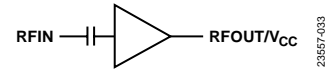
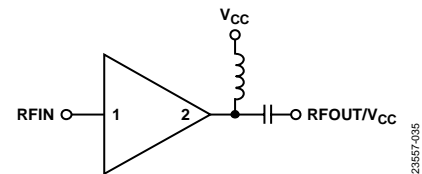
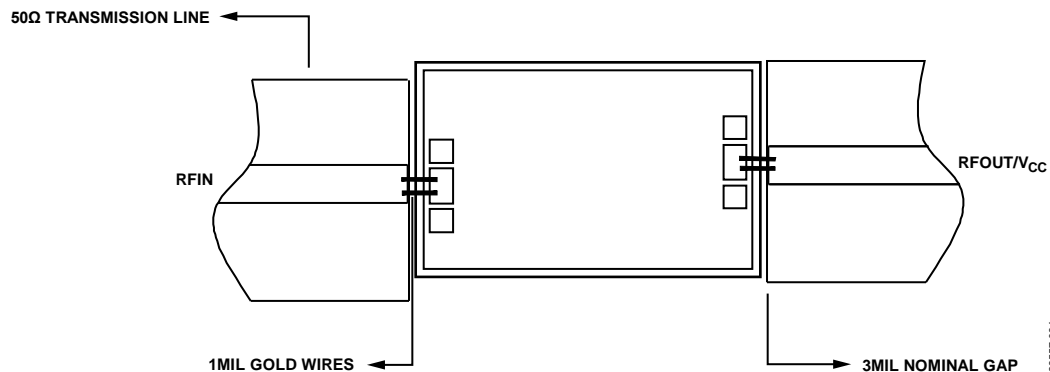

Figure 33. Simplified Block Diagram
Figure 34. Typical Application Circuit
Figure 35. Assembly Diagram
The ADL8150ACHIP is a self biased, single 5 V power supply amplifier. RFIN is dc-coupled, and RFOUT/VCC requires an external bias tee (see Figure 35). Figure 33 shows the simplified block diagram.
The ADL8150ACHIP is a self biased GaAs, MMIC, HBT, low phase noise amplifier. Figure 34 shows the typical application circuit. Adhere to the following bias sequence during power-up:
2. Set the  $V_{CC}$  supply to 5 V on a bias tee on the RFOUT/ $V_{CC}$  pin (see Figure 34).
Figure 35 shows the assembly diagram, and Figure 34 shows the typical application circuit diagram.